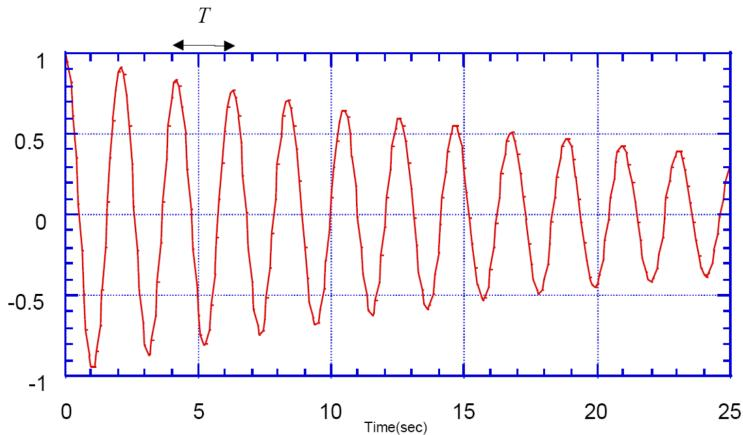

Figure 7
In this experiment, you will use electronic equipment to measure the mechanical properties of a system comprised of a spring and a set of masses. A digital oscilloscope is a tool that produces a real-time visualization of an input voltage. If a damped oscillating voltage is fed into an oscilloscope, the device can generate an image like that shown below, where the vertical axis is voltage and the horizontal is time. This allows for digital measurements of the amplitude or period (labeled as T Figure 7).
1. (1 pt) For the oscillation shown in Figure 7, determine the peak amplitude A_0 (no units are necessary), the period T , the ordinary frequency f , and the angular frequency ω .
2. (1 pt) Does the signal in Figure 7 look like a damped or an undamped oscillation?